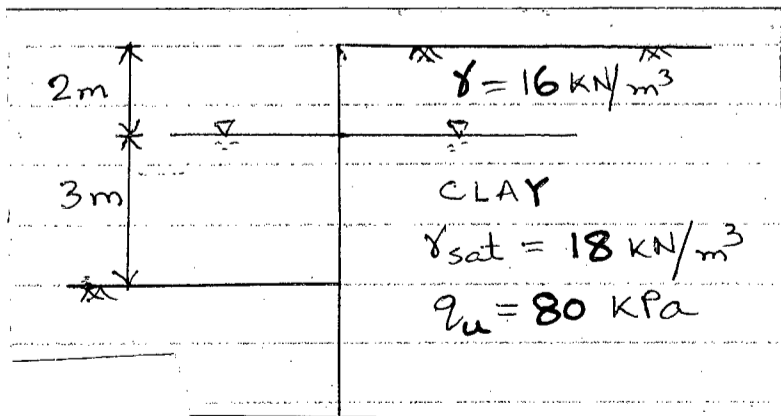

Fig. 5
7. (a) Determine the required length of cantilever sheet pile in cohesive soil (Fig. 5) retaining cohesive backfill. Consider short term loading. (15)
(b) Compute the value of the concentrated load “P” that the cantilever beam of Fig. 5 can carry (i) without producing tension at section 1-1 and (ii) Producing first crack at the support section at a modulus of rupture of 4.0 MPa, and assuming concrete to take tension upto that value. (13 1/3)